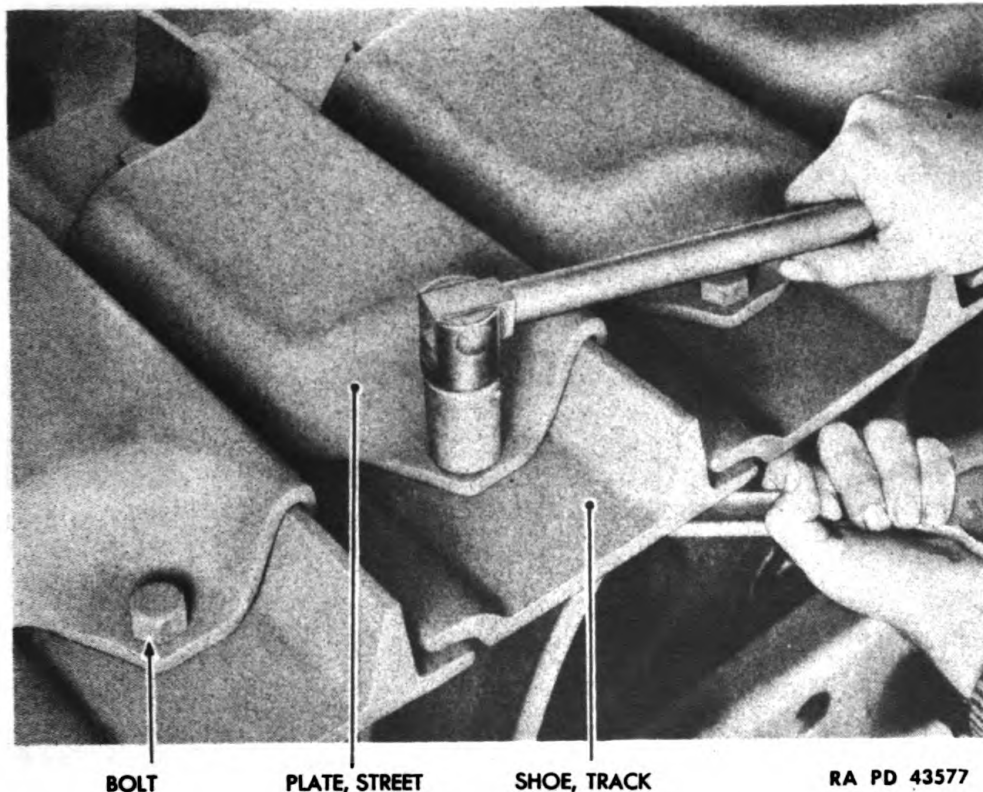

Figure 165 — Street Plate Removal
(a) *Remove Street Plate* (fig. 165).
(b) *Install Street Plate* (fig. 165).
(a) *Remove Street Plate if Street Plate is Installed* (fig. 165). Follow procedure outlined in step (1) above.
(d) *Install Street Plate if Required* (fig. 165).